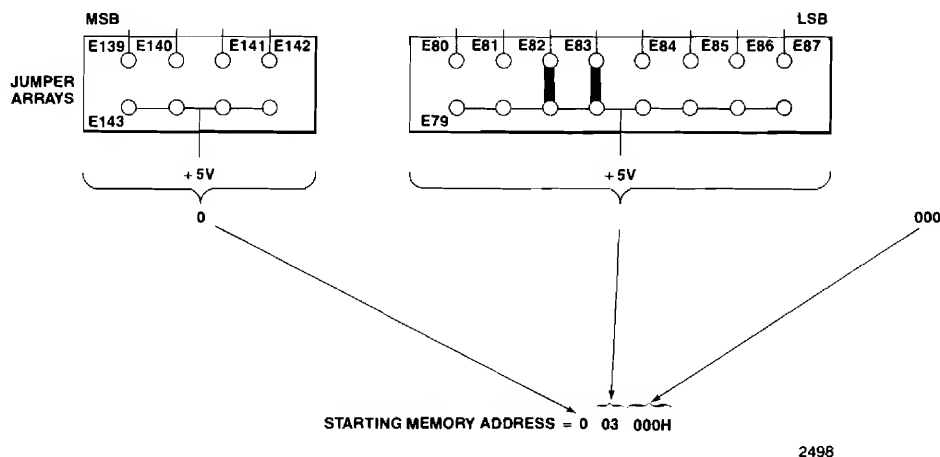
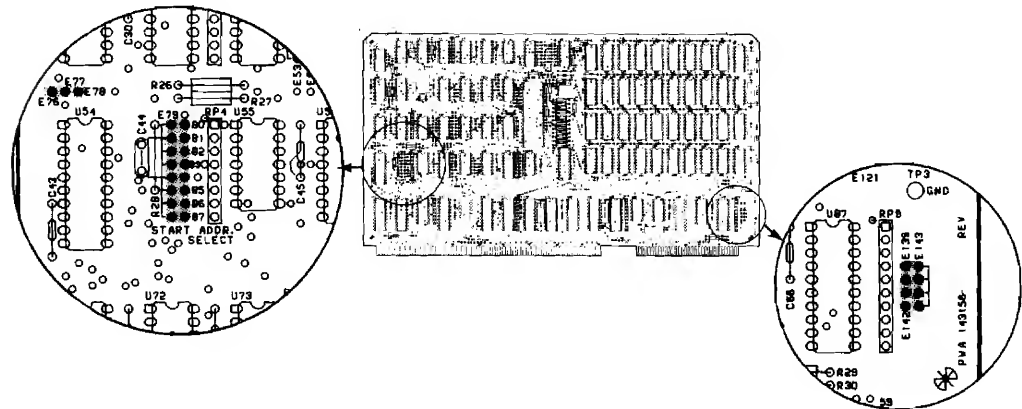

Figure B-3 The iSBC® 056 Board's Jumper Settings (Series IV Model 43X)
Figure B-4 Jumper Locations on the iSBC® 056 Memory Board
2. Ensure that the starting address of the iSBC 056 memory board is set to 192K (030000H). The jumpers settings are shown in Figure B-3; their locations are shown in Figure B-4.